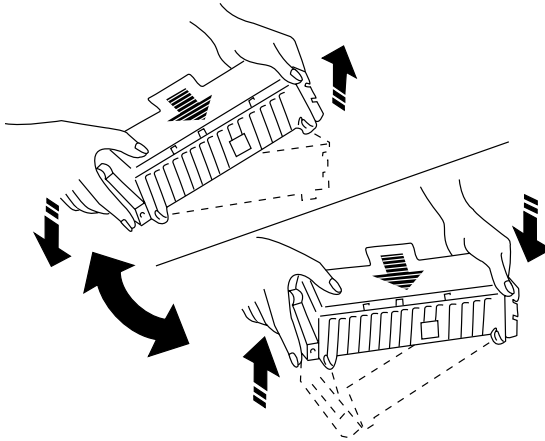

Fig. 6.4 *Distributing Toner in Cartridge*
Usually, the EP-L cartridge lasts for approximately 3,500 prints (estimated for an average of 5% coverage on letter size paper). When the cartridge toner supply gets low, some parts of the page print lighter or don't print at all. You may sometimes increase the life of the EP-L cartridge by taking it out of the printer and redistributing the toner (fig. 6.4). Follow removal and installation instructions as normal, except re-install the existing cartridge after distributing the toner.
1. Hold the cartridge as shown in figure 6.4 and gently rock it from side to side. This distributes toner inside the cartridge and helps ensure good quality printing.
5. Check the diagonal bar on the cleaning sheet. It should be solid black. If it is not, toner may be low or may need to be redistributed by gently rocking the toner cartridge from side to side (fig. 6.4).